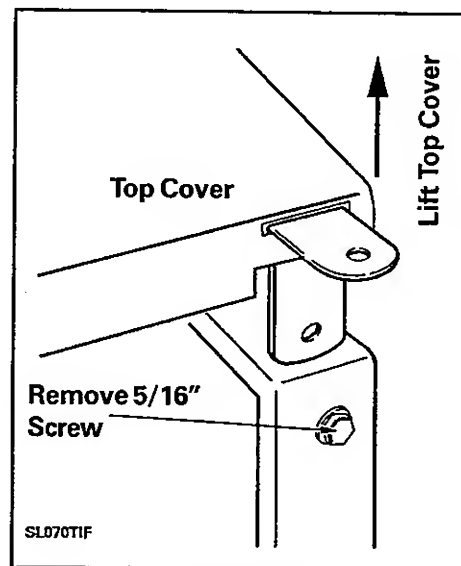

Figure 9-6
3. Remove two 5/16" hex head screws in upper front cabinet flange (*Figure 9-6*).
4. Remove the lower 5/16" hex head screw in the upper right hand top cover cabinet bracket (Figure 9-6).
5. Raise the front right corner of the top cover with bracket attached till the bracket clears the front cabinet flange (Figure 9-6).